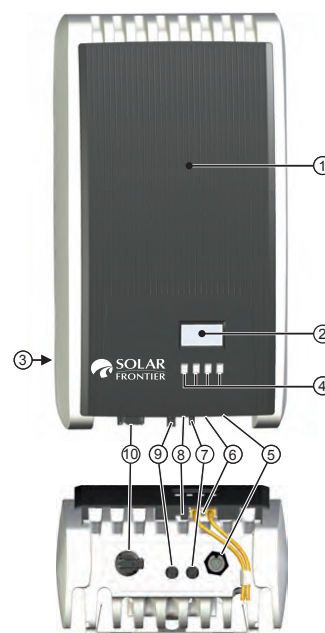

Figure 33
The operating buttons (④ in Figure 33) have the following functions: